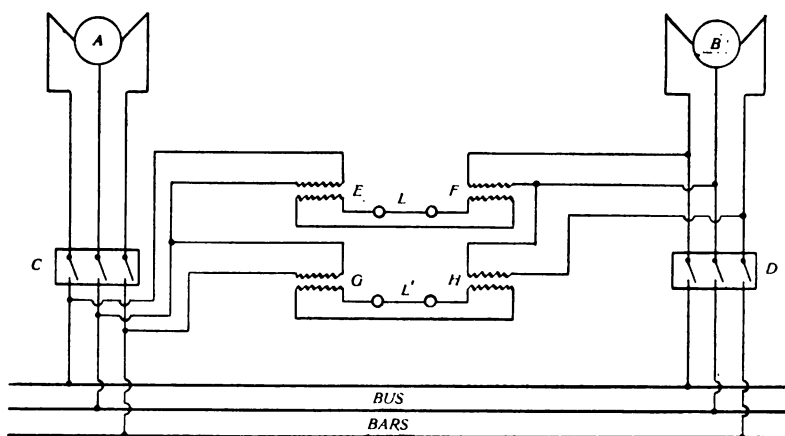

FIG. 102.—Paralleling Two "Three-phase" Generators.
*Fig. 102* shows the connections of **synchronising lamps** and **transformers** for paralleling two "**three-phase**" machines. To synchronise, proceed as in the case of the two-phase machines. If the lights on both phases do not come and go simultaneously when the machines are running at normal voltage, reverse two leads on one machine and try again. The right combination will readily be found. It is only necessary to "**phase-up**" two of the phases and the third will be right. After the machines have